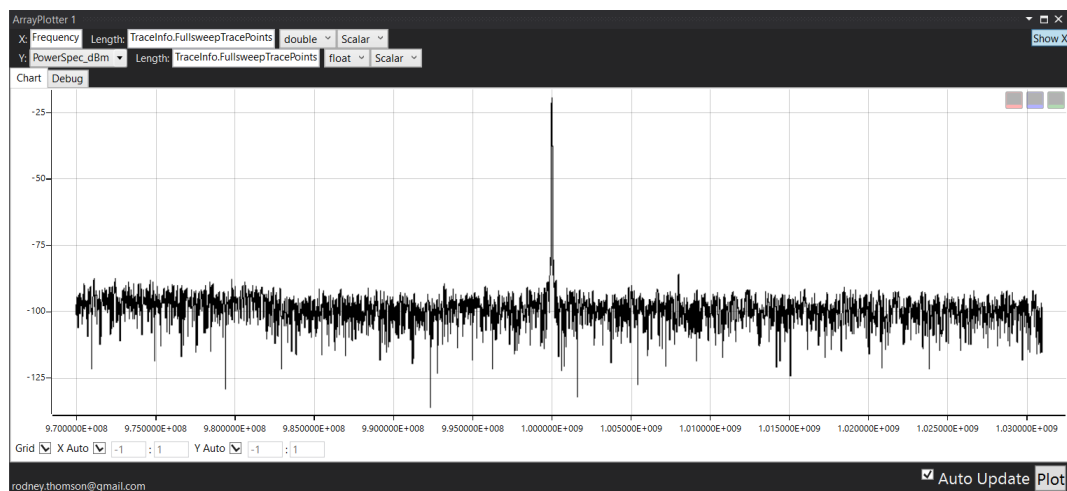
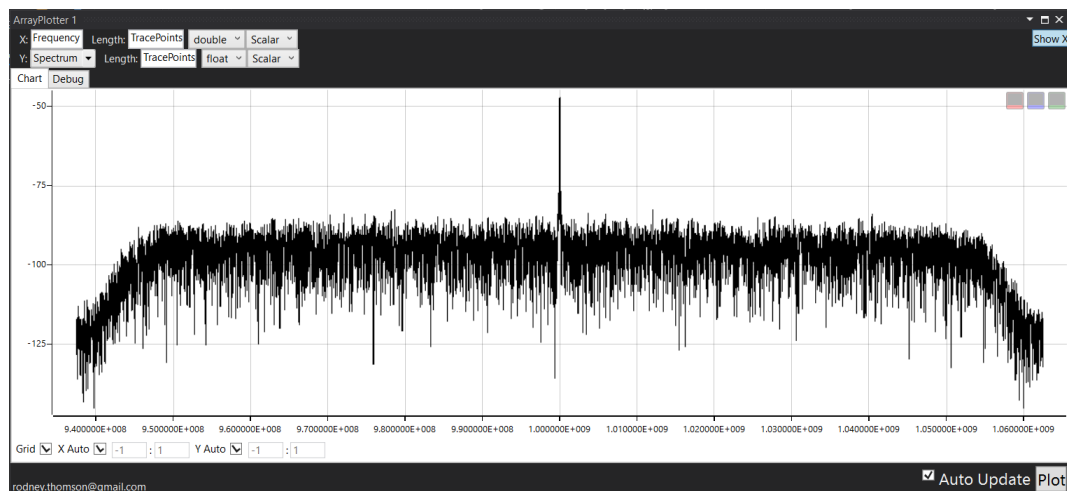

Figure 21 Spectrum trace in SWP mode
Figure 22 Spectrum trace after data conversion
- **Signal Amplitude Difference:** For example, when inputting a 1 GHz, -20 dBm signal, the signal amplitude displayed in SWP mode is approximately -20 dBm (as shown in Figure 21), where the spectrum after IQ conversion displays approximately -50 dBm (as shown in Figure 22).
- **Sideband Effect:** Unwanted sidebands appear on both sides of the spectrum after IQ conversion (as shown in Figure 22).